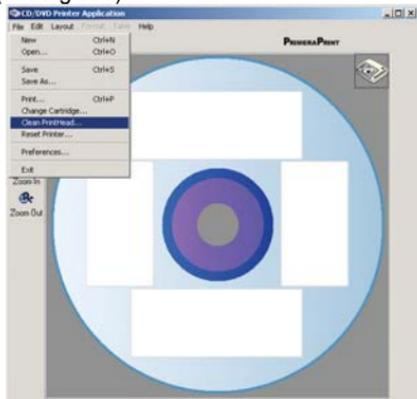

Figure 7
1. Click on file and select “Clean Print Head...” on the drop down menu. (See Figure 7)